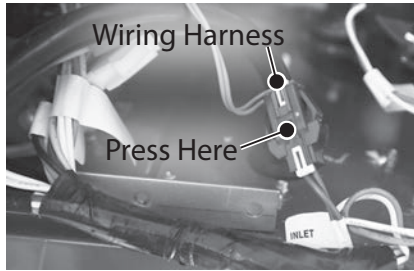

Figure 68 - Wiring harness removal
- 25** Disconnect the thermistor at the wiring harness marked "INLET" as shown in Figure 68.
- 30** Connect the new thermistor wiring harness to the harness marked "INLET." See Figure 68.